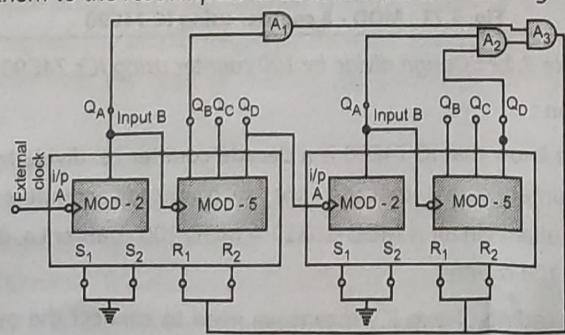

Fig. 3.73 : MOD 93 counter
- For divide by 93 or MOD-93 counter we first correct the two ICs 74C90 as MOD -100 counter as shown in Fig. 3.73.
- For the state 1001 0011, the outputs Q_D , Q_A of ten's digit IC and the outputs Q_B , Q_A of one's digit IC are 1. Therefore, the respective outputs need to be AND ed together and connect them to the reset inputs of both ICs. It is shown in Fig. 3.73.
- As shown in Fig. 3.73, when the circuit reaches to state 1001 00011, the outputs of all AND gates A₁, A₂, A₃ become 1 and as outputs of A₃ is connected to reset inputs of both ICs, immediately the counter is reset to 0000 0000.